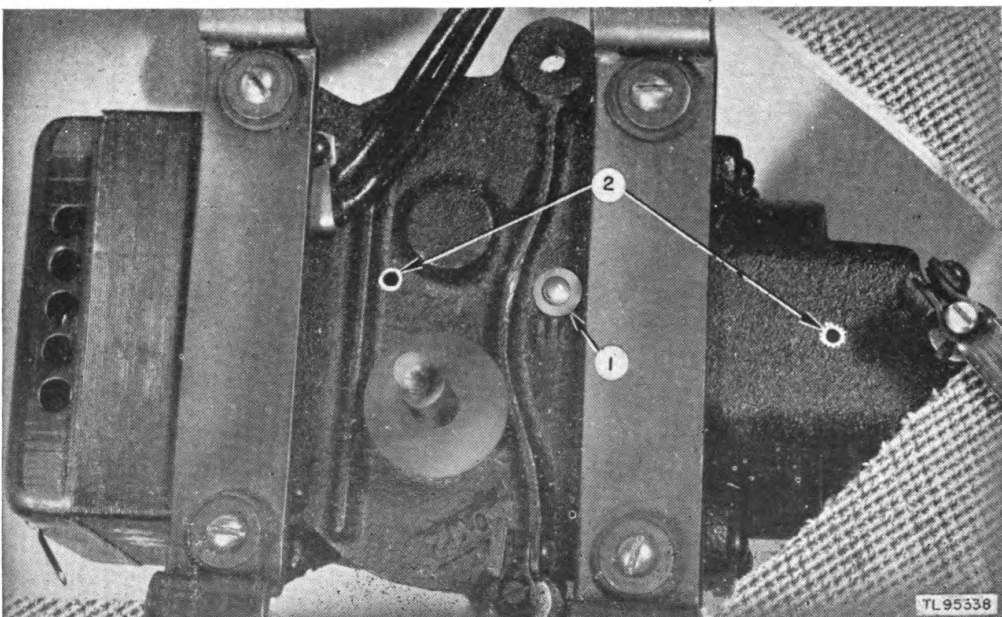

Figure 8. Lubrication points, turntable motor.
f. Lubricate (L). Every 256 operating hours lubricate the motor bearings by removing the turntable as indicated in subparagraph *a.* above, and apply —3 or 4 drops of Oil, Engine, SAE No. 10, U. S. Army Spec. No. 2-104B in each of the three visible oil holes (fig. 8). Remove surplus oil from around the oil holes with a clean, dry cloth.